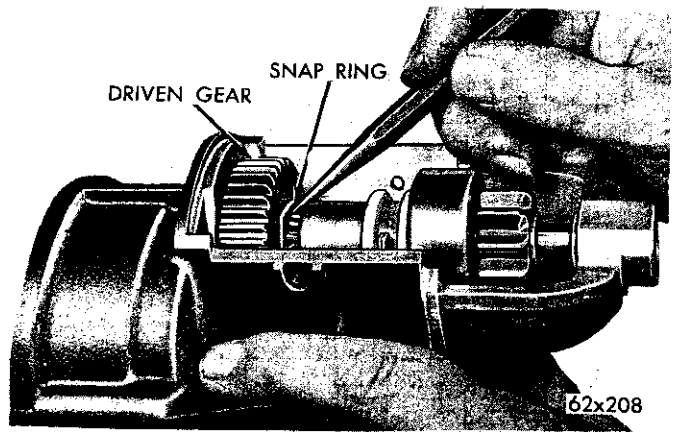

Fig. 11—Removing the Driven Gear Snap Ring
(21) Release the snap ring that positions the driven gear on the pinion shaft (Fig. 11.)
(6) Install the driven gear snap ring (Fig. 11).